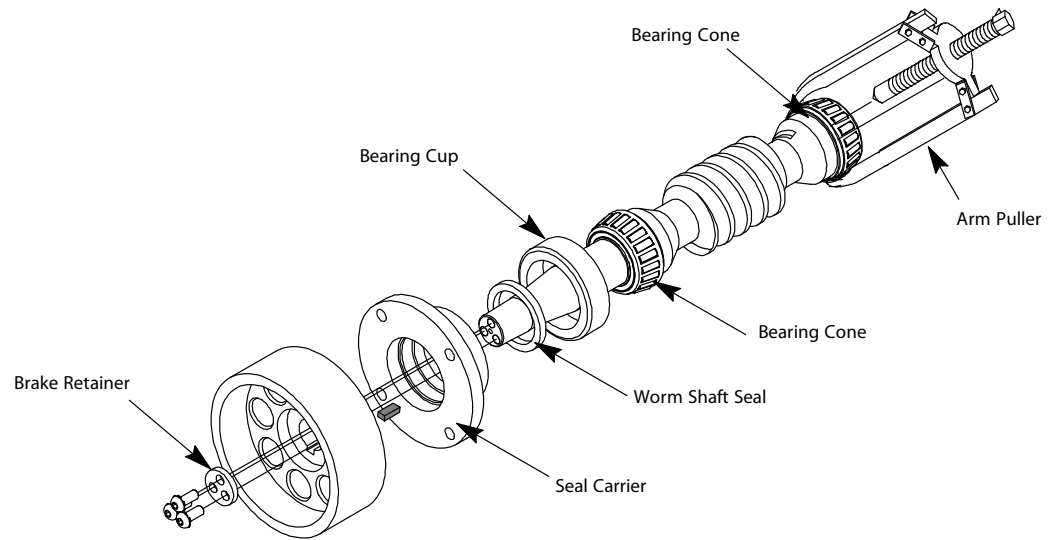

Figure 58 - Arm Puller on Worm Shaft
- Remove the three (3) M10 hex button head screws and the brake retainer plate. See Figure 58.